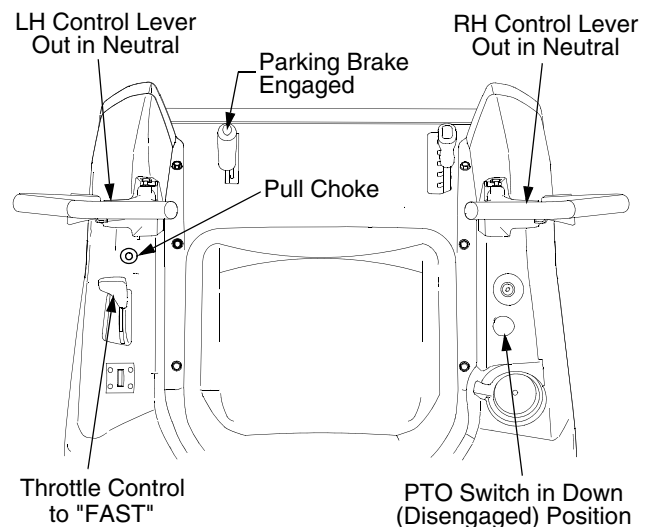

Figure 8
- Move the RH and LH drive control levers fully outward in the neutral position. Refer to Figure 8.
- Engage the parking brake. Refer to Figure 8.
- Make certain the PTO switch is in the disengaged (down) position. Refer to Figure 8.